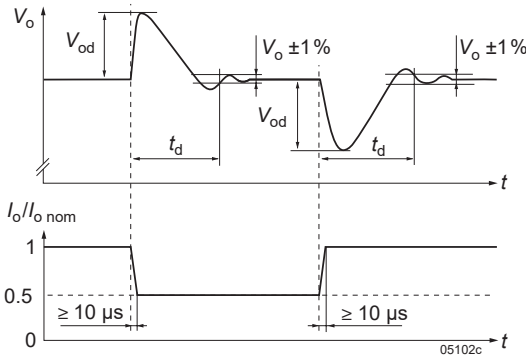

Fig. 4
- 4 Recovery time until  $V_o$  returns to  $\pm 1\%$  of  $V_o$ ; see fig. 4.